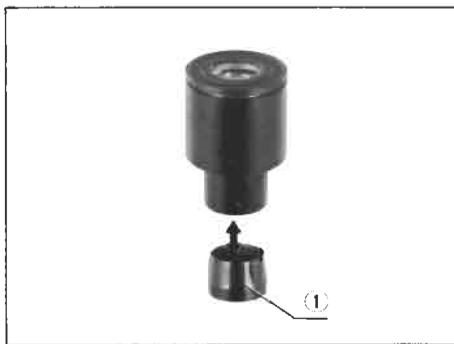

Fig. 2
- 1) Remove the retaining ring (1) from the lower end of the eyepiece and place the micrometer on the retaining ring with the reticle-engraved surface, facing downward. (Fig. 2)